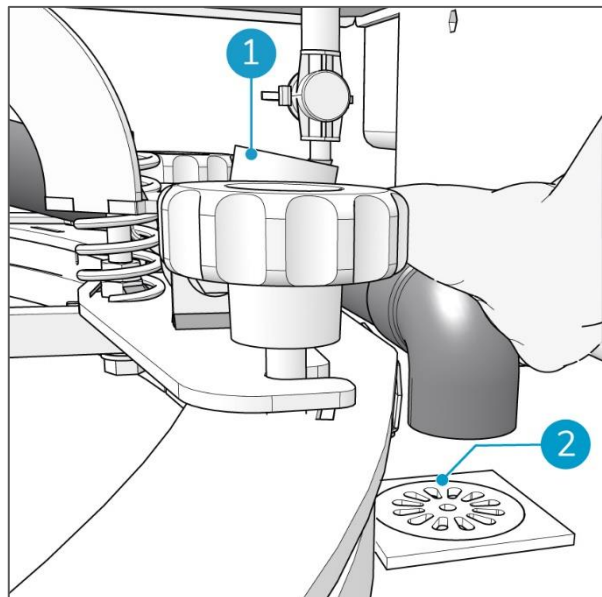

Figure 72
5. Remove the vacuum hose from the hose connector of the squeegee (Figure 72, pos 1).
6. Place the vacuum hose end above a recovery water disposal drain (Figure 72, pos 2).
10. When the suction line is clean, replace the vacuum hose on the hose connector of the squeegee (Figure 72, pos 1).